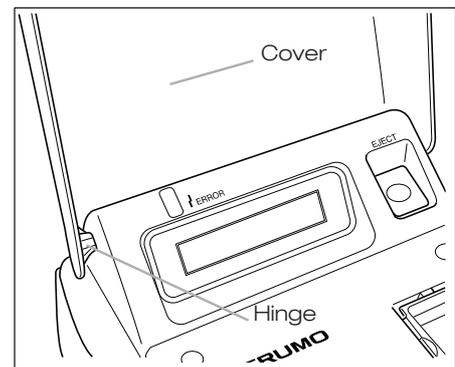

Figure 17
2. To re-attach the cover, hold it in vertical position and slide it down into the hinge sockets on the top at the rear side of the TSCD[®]-II (See Figure 17).